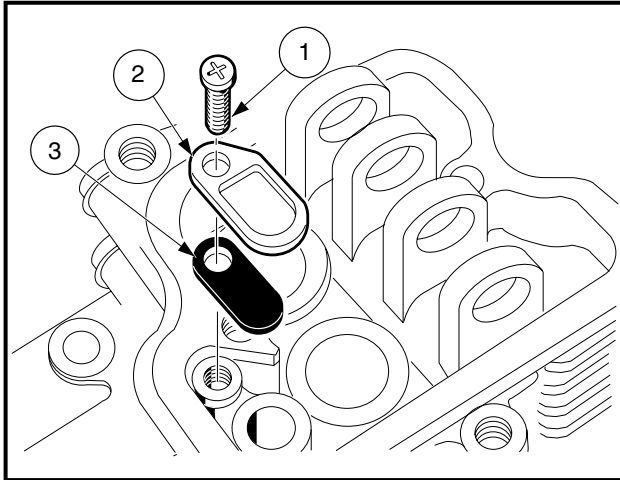

Figure 2-11 Reed Valve
1. Unscrew the mounting screw (1) and remove the back plate (2) and reed valve (3) (**Figure 2-11, Page 2-9**). For installation, see **Breather Valve Installation on page 2-19**.